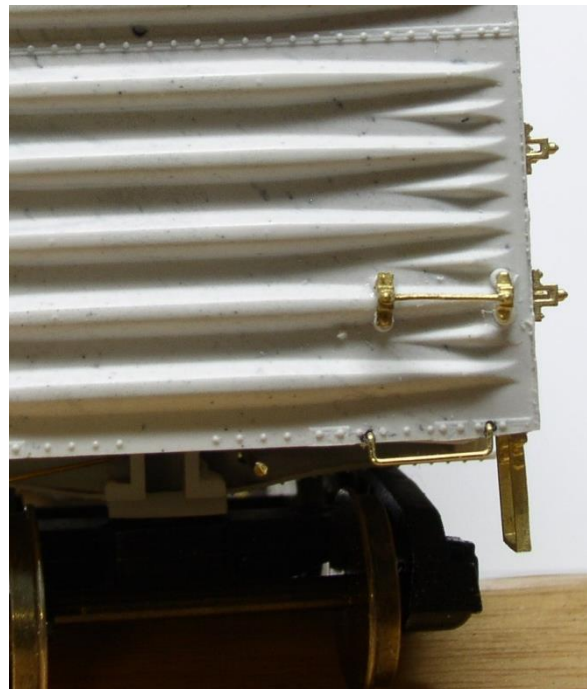

Figure BD11
11. On the lower right bottom of each end, mark 7" from the edge and then 18" from that mark towards the centre. Drill a 0.016" hole in each mark. Check to see if the Tichy Straight 18" Grab Irons fit into the holes. Next bend the Grab Irons 90° so that they hang down 4 inches from the holes. We use 3/32" square tubing as a form. See Figure BD11.